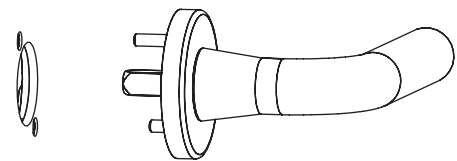

Figure 6
1. Insert uninstalled outside mortise trim and rotate to verify top and bottom latches retract flush with door. Do not install mortise trim at this time. (Figure 6)